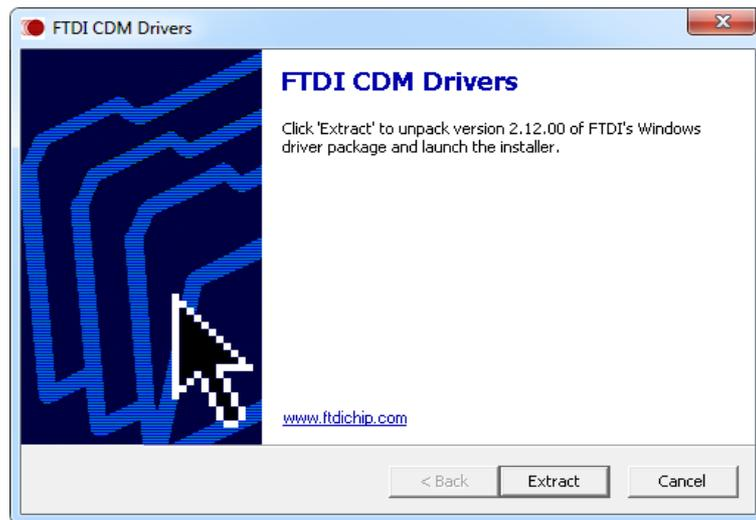

Fig. 5-6 Extracting drivers.
2. Click on **Extract** (Fig. 5-6).